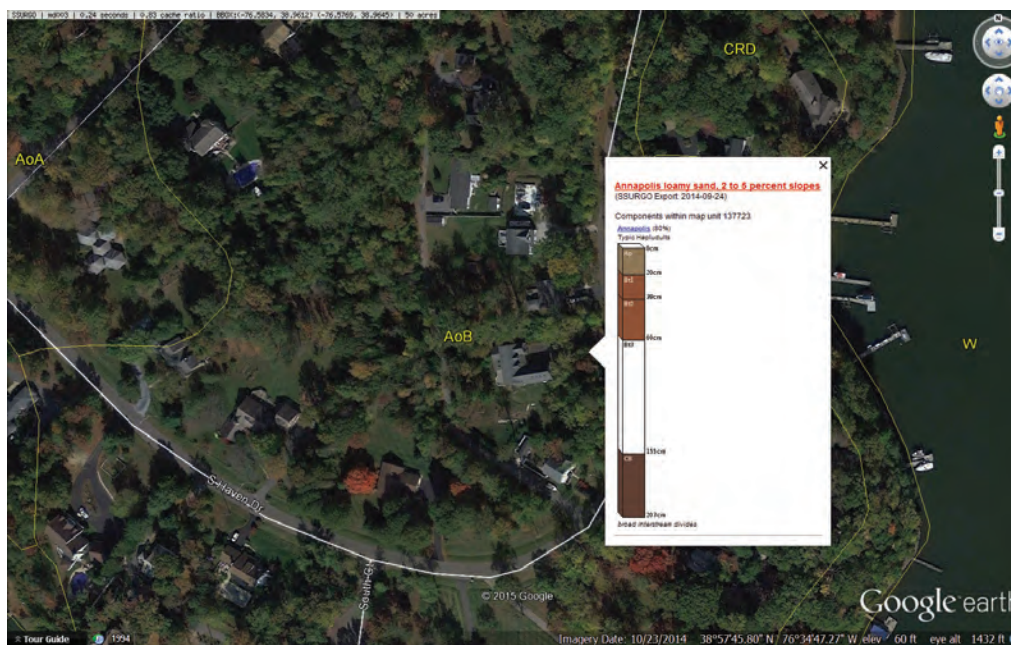

Figure B.5: Screenshot of Google Earth's SoilWeb tool showing soil type delineations and a vertical soil type profile for the selected subarea (Source: Google)
- Users of Google Earth or Google Earth Pro (both free programs) can add the SoilWeb plugin which also offers a very fast and user-friendly portal to most of the same data, with the exception of depth to groundwater. Visit Appendix A: Site Assessment for more information about the utility of Google Earth. **Figures B.5** and **B.6** show examples of the interface and output of SoilWeb.